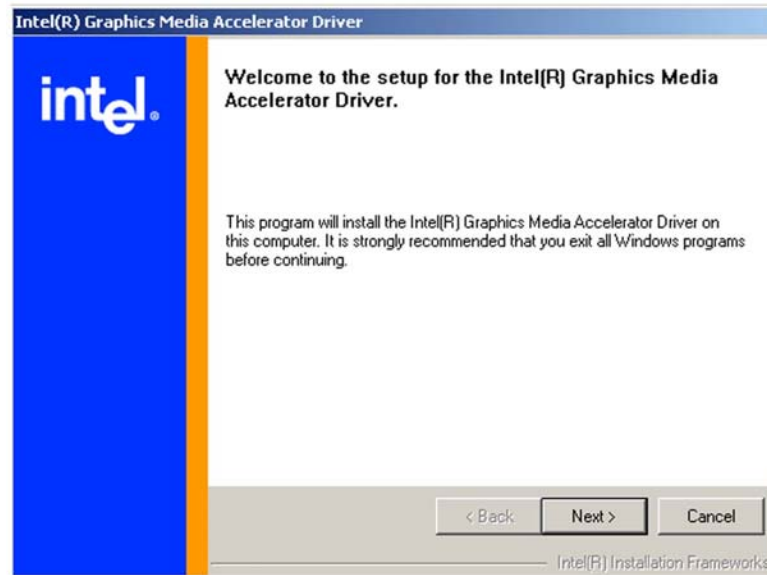

Figure 7-15: GMA Driver Installation Welcome Screen
Step 10: The welcome screen shown in **Figure 7-15** appears.